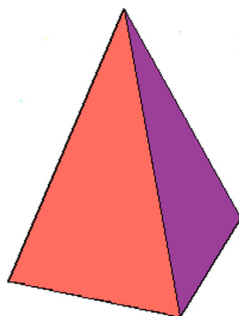

FIGURE 23.24 Pyramid primitive.
- Step 4.** Drag your mouse (or enter a value) and the pyramid shape is automatically extruded, as seen in Fig. 23.24. Just like with the cone, you can vary the top radius of the shape.